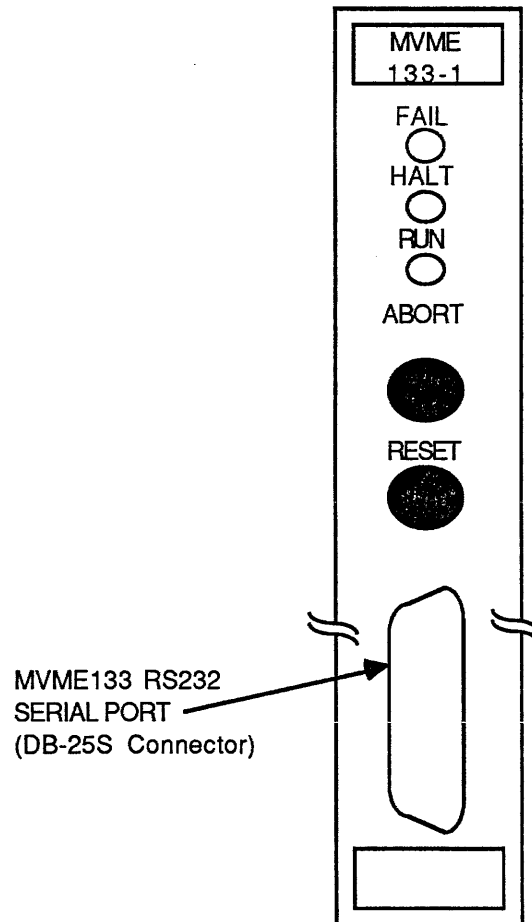

Figure 3.3.1-1 *MVME133 RS232 Serial Port Location*
To start up in stand-alone mode, connect a terminal (set at 9600 baud, 8 bits, 1 stop bit and no parity) to the RS232 serial port of the 6U's MVME133 board. (See Figure 3.3.1-1.) "Flea mode" (explained in Step 9) requires that a VT100-compatible terminal be used. Stand-alone mode allows the CIG to generate visual images without a Simulation Host computer. From the terminal, use keyboard controls to move the viewpoint around the database. Stand-alone mode is the easiest mode to use to debug the CIG.
- 1) To start the CIG in stand-alone mode, the switches on the 6U's MVME050 board must be properly set: the MVME050 board switch 1 must be ON (to the right) and all other switches must be OFF (to the left) as in Figure 3.3.1-2.